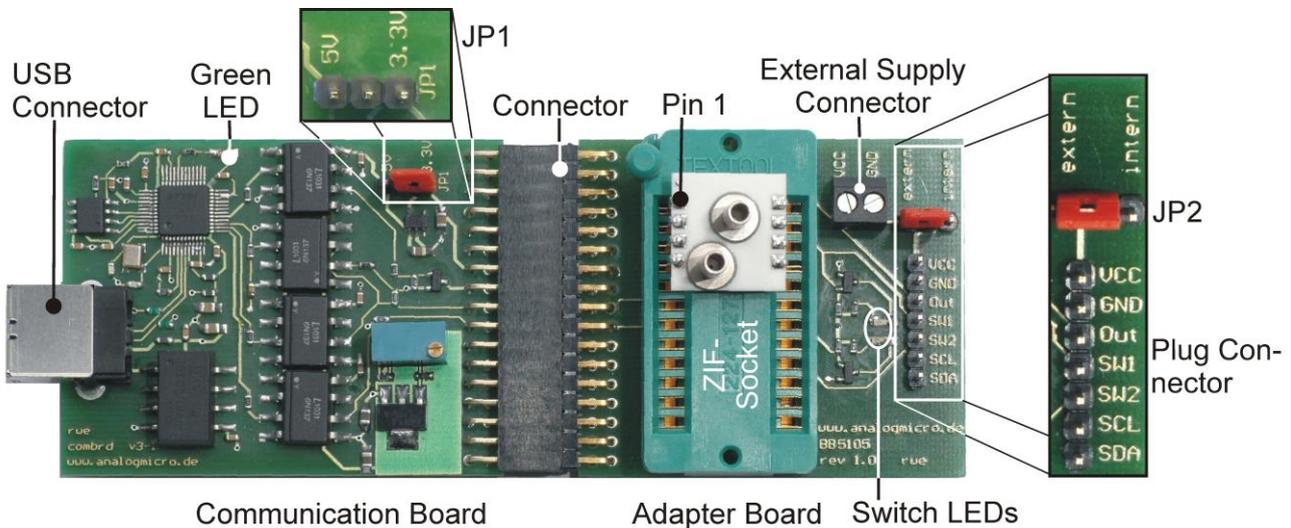

Figure 1: USB Starter Kit AMS 5105 with connected sensor.
The starter kit hardware consists of two printed circuit boards: the communication board *CB-I2C* and the adapter board *BB5105* with a ZIF-socket to connect one AMS 5105 sensor. Figure 1 shows the assembled kit with mounted sensor.
The connection between *CB-I2C* and *BB5105* is realised by a 34 pin connector. A zero injection force (ZIF) socket on the *BB5105* allows easy mounting and exchanging of an AMS 5105 pressure sensor/ pressure switch. Pin 1 of the sensor is at the upper left edge of the ZIF-Socket (see Figure 1).
For the internal power supply of the connected AMS 5105 by the USB Port, JP 2 on board *BB5105* has to connect to position "intern". Additionally the sensors supply voltage has to be chosen by the jumper JP1 on board *CB-I2C* (see Figure 1); for standard products of AMS 5105 series connect JP1 to 5V.
At the 7 pin plug connector on the *BB5105* the sensors supply voltage VCC, GND, the switching outputs SW1 and SW2, the analog output and the I2C bus lines are connected. This plug can be used for monitoring the sensor supply voltage and further for connecting and testing sensors, which are already. The logic level of the switching outputs is displayed by the two LEDs *Switch LED1* and *Switch LED2* (see Figure 1).
First, the adapter board *BB5105* for AMS 5105 pressure sensor/ switch and the communication board *CB-I2C* are connected together by the 34 pin connector. Then, the AMS 5105 sensor has to be mounted into the ZIF socket on *BB5105* (orientation of pin 1: see Figure 1).
5. The green LED on the communication board flashes up, when the board is detected by the PC and the drivers are loaded successfully (see Figure 1).
In case of internal power supply the internal supply voltage can be adjusted by the potentiometer on the *CB-I2C* (see Figure 1).